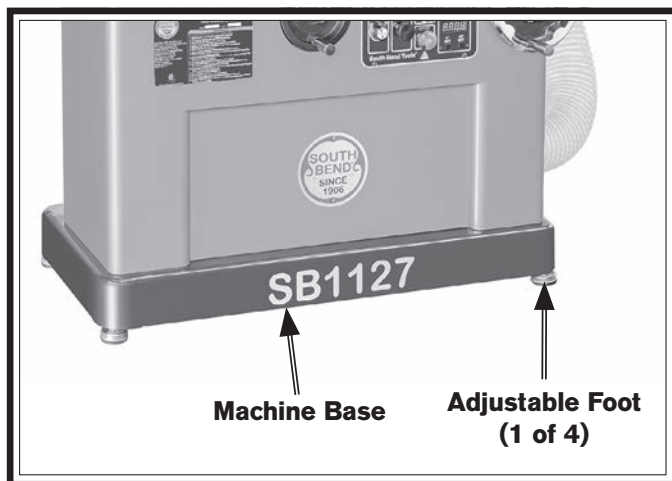

Figure 13. Location of adjustable feet.
1. Adjust (4) adjustable feet in or out of machine base (see **Figure 13**) as needed to level machine.